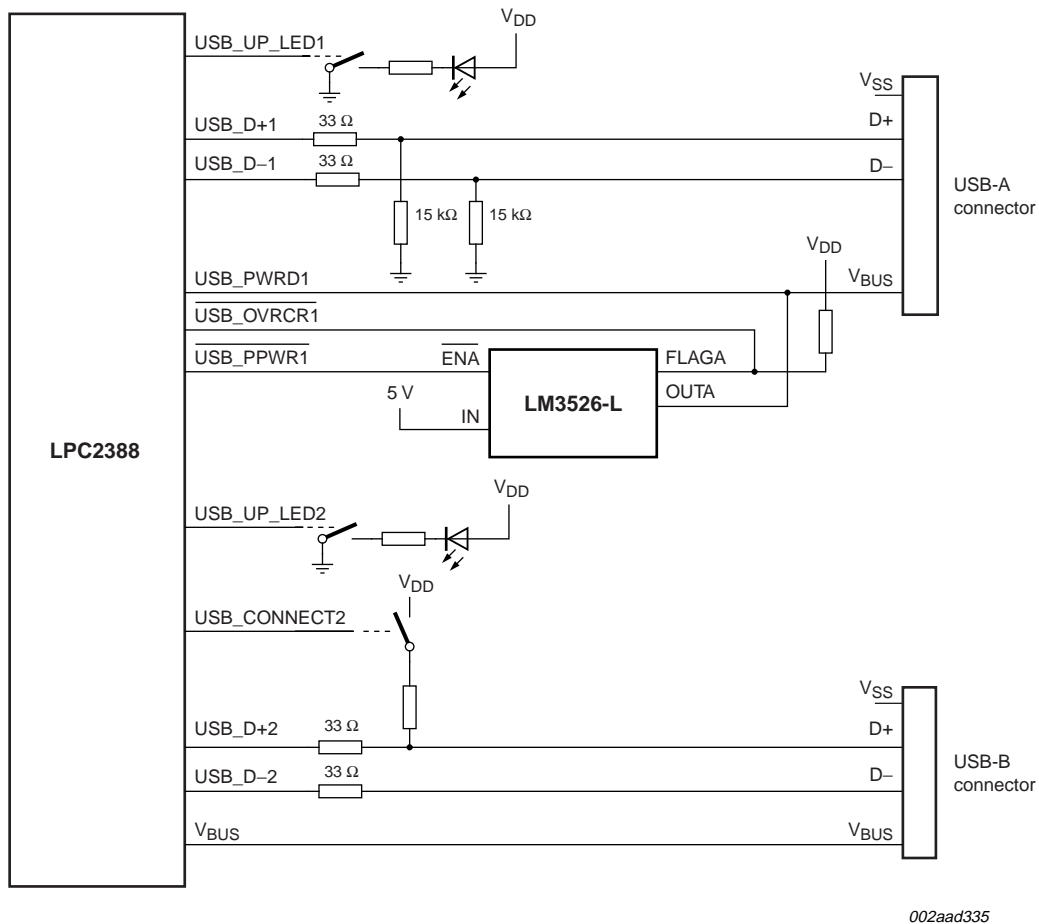

Fig 73. USB OTG port configuration: port U1 host, port U2 device
- Two-port host (see Figure 73)